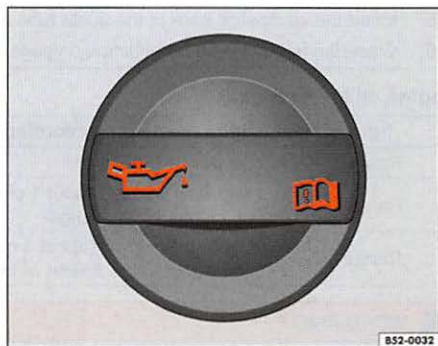

Fig. 129 In the engine compartment: Engine oil filler cap.
4. Find the oil filler opening and the dipstick. You can identify these by the  symbol on the engine oil filler cap ⇒ fig. 129 and the colored handle on the dipstick. If you are not sure where the cap and the dipstick are located, see your authorized Volkswagen dealer or authorized Volkswagen Service Facility for assistance.
9. Remove the cap on the engine oil filler opening ⇒ fig. 129.